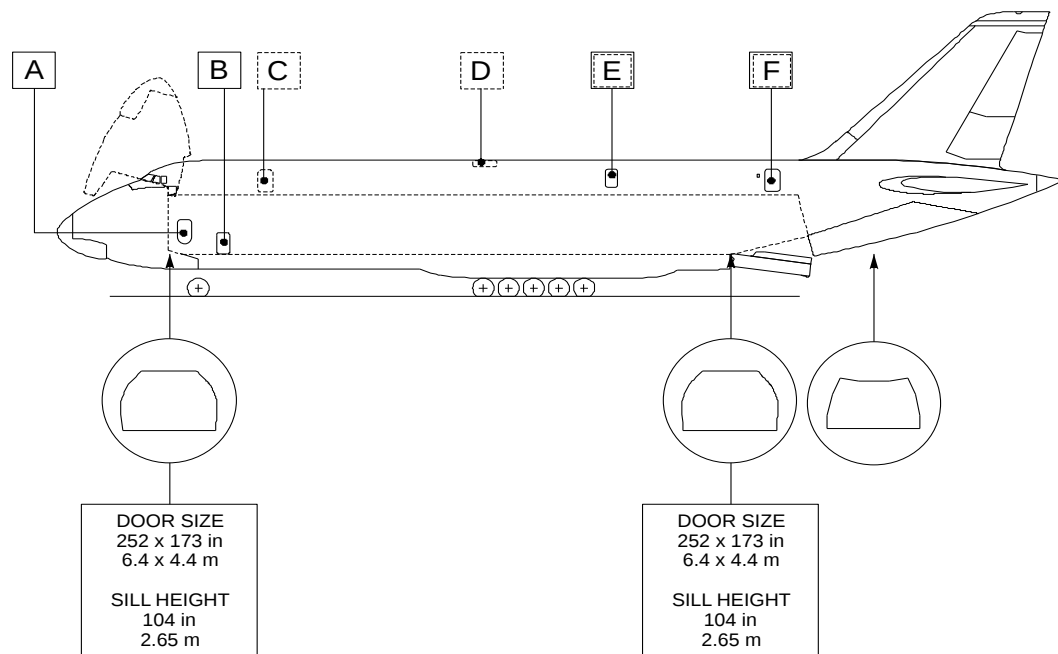

Figure 8. Sills height and dimensions for AN-124-100(-150)
- Figure 8. Sills height and dimensions for AN-124-100(-150);